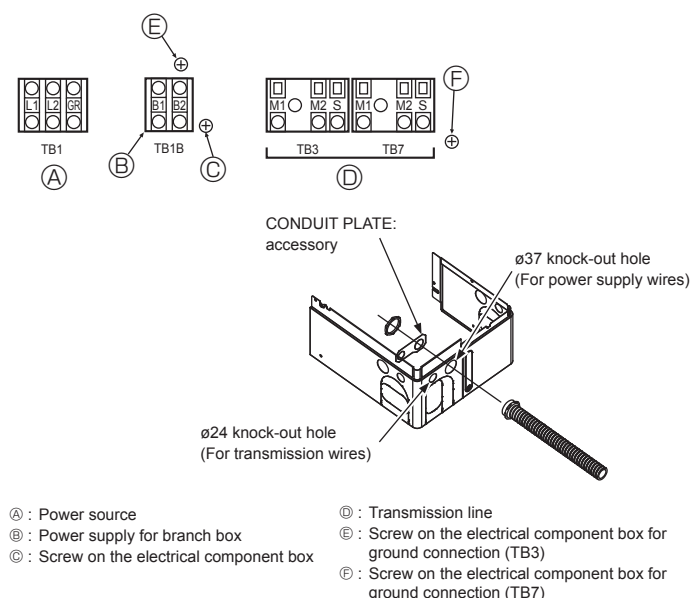

Fig. 6-1
- ⑩ Before turning outdoor unit on, be sure to turn the indoor units and the branch boxes on.
6.2. Control box and connecting position of wiring (Fig. 6-1)